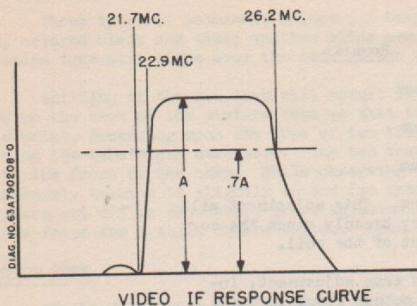

FIGURE 5. VIDEO I.F. RESPONSE WAVEFORM
The video IF amplifier response curve is shown in Figure 5. The bandwidth at the 3 db points should be approximately 3.5 mc. To check this with the AM generator, note the signal strength in microvolts necessary to produce an increase of 1 volt above contact potential at 24.5 mc. Increase this input by 1.4 times and shift the generator frequency both sides of 24.5 mc until the original detector voltage is again obtained. These two new frequencies thus obtained are the 3 db skirt frequencies and should be approximately 22.9 and 26.2 mc. This measurement should be made with the -3 volt mixer bias and a -5 volt contrast bias.
10. Compare the curve with the ideal curve in Figure 5, using the marker to locate specific frequencies on the wave. If it is necessary to alter the shape of the curve, readjust the core closest in frequency to the point requiring correction.